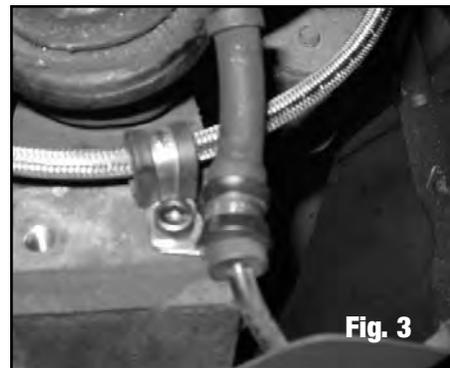

Fig. 3
4. Fasten hose and ABS wire to top of knuckle using factory bolt and supplied cushion clamps. **NOTE:** For best results, tap front hole on right (passenger) side knuckle for M6 x 1.0 thread to locate hose and ABS wire **(See Figure 3)**.